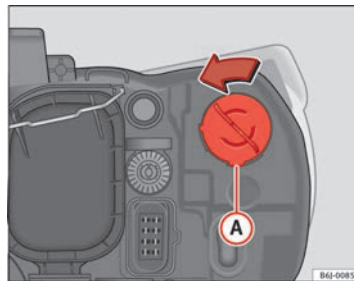

Fig. 154 Turn signal
- Rotate the bulb holder ⇒ fig. 154  to the left and pull.